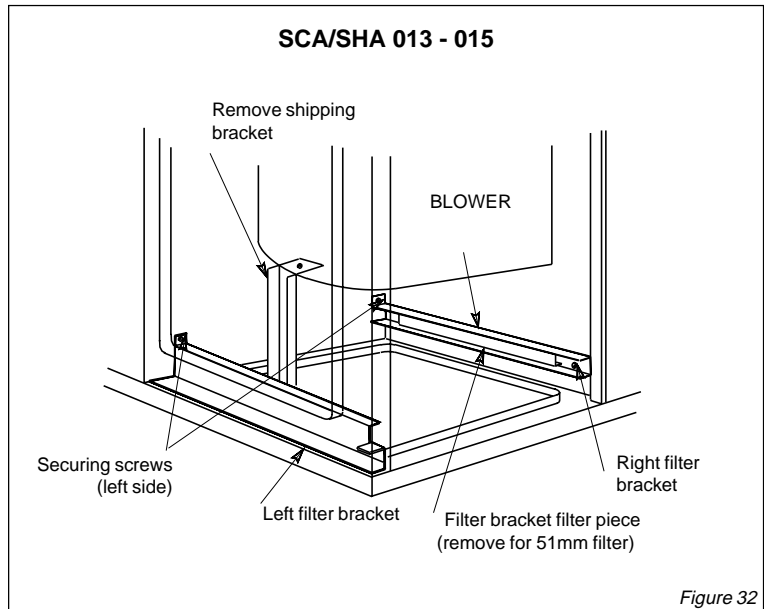

Figure 32
- SHA 013, 015 units** - See figure 32.